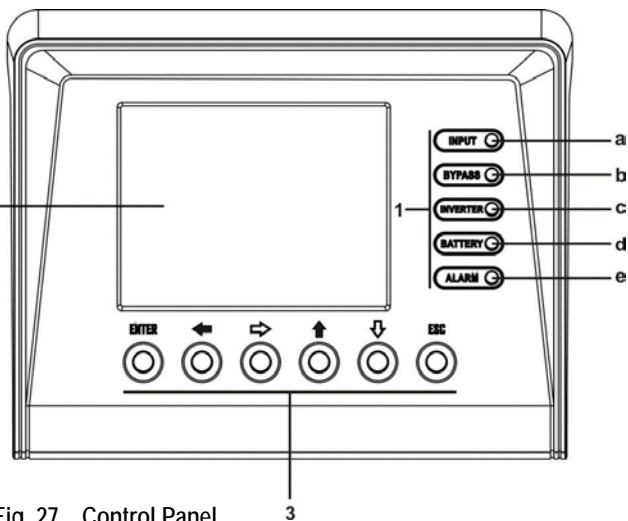

Fig. 27 Control Panel
1. LED Indicators (refer fig. 27)